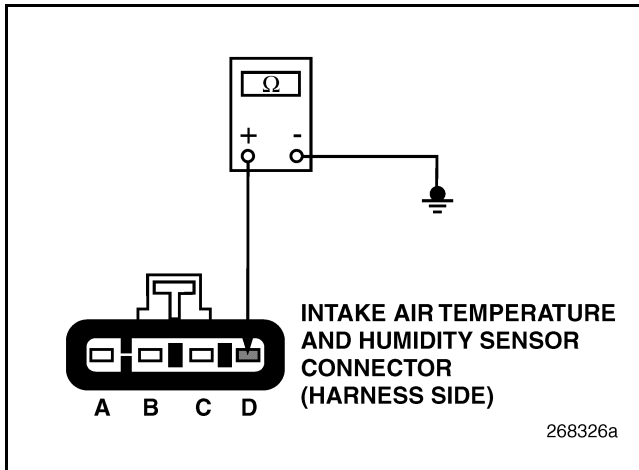

Figure 299
4. Check for continuity between pin D of the IATH Sensor harness connector and a good ground (see Figure 299).